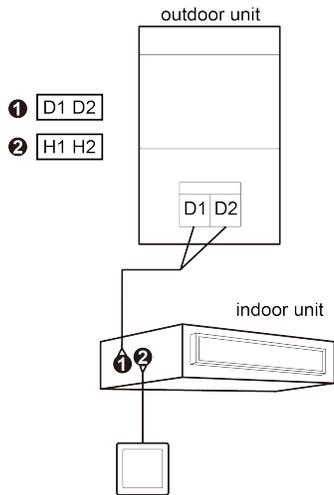
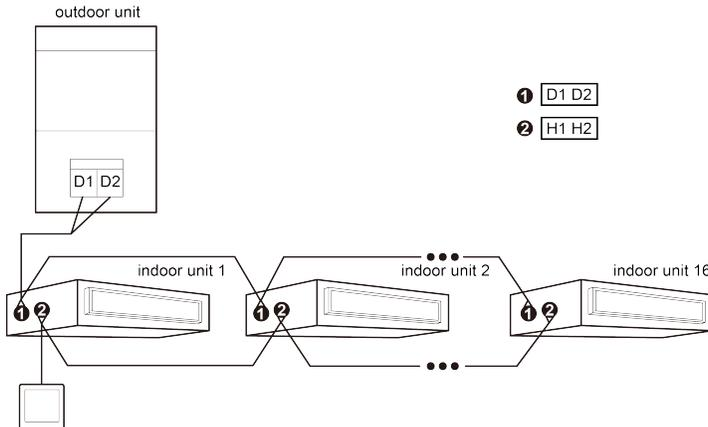

Fig 4.4 One wired controller controls one indoor unit
Fig 4.5 One wired controller controls multiple indoor units
- (1) When one wired controller is to control multiple indoor units, it can be connected to any one indoor unit, but the connected indoor units must be the same series indoor units. The wired controller can control a maximum of 16 indoor units, which must be within the same network. The wired controller should be configured with the number of indoor units in group control. Please refer to section 4.2.2 for the configuration method.
- (2) When one wired controller is to control multiple indoor units, the settings of the units under control should be the same.
- (3) The wiring network of the wired controller and indoor units must be in accordance with Fig 4.4 or Fig 4.5.